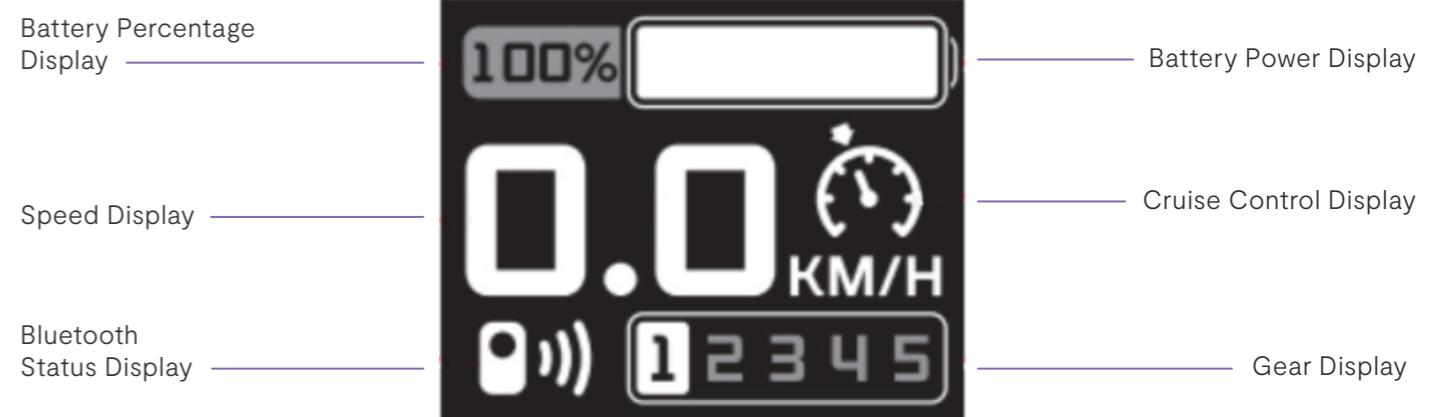

Figure 4.3.3.1
- The top of the display screen shows the remaining battery level as a percentage (%). (See Figure 4.3.3.1)
- Speed accuracy is within ±5%. (See Figure 4.3.3.1)
- When Bluetooth is connected, the Bluetooth icon will be displayed. (See Figure 4.3.3.1)
- The screen continuously displays the real-time power status of the Powerchair. (See Figure 4.3.3.1)